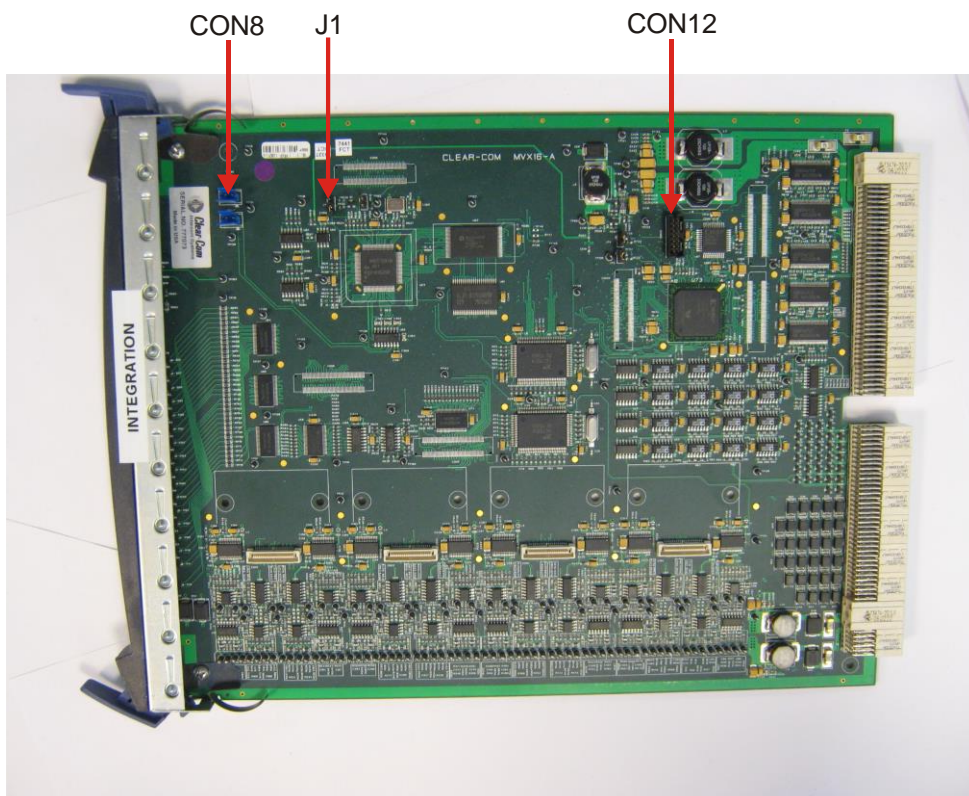

Figure 7-2: MVX-A16 MK I card: J1, CON8 and CON12
The MK 1 MVX-A16 card is **green**. – see **Figure 7-2: MVX-A16 MK I card: J1, CON8 and CON12**
Tip: For the location of connectors and jumpers on the MVX-A16 MK I card, see **Figure 7-2: MVX-A16 MK I card: J1, CON8 and CON12**
4. Connect the MVX serial cable (CAB-MVX-48Z) to the **CON8** connector on the MVX-A16 card and to the PC (see **Figure 7-2: MVX-A16 MK I card: J1, CON8 and CON12**).
3. Connect the **14way IDC header** to **CON12** (see **Figure 7-2: MVX-A16 MK I card: J1, CON**).
3. Connect the **14way IDC header** to **CON12** (see **Figure 7-2: MVX-A16 MK I card:** J1, CON).